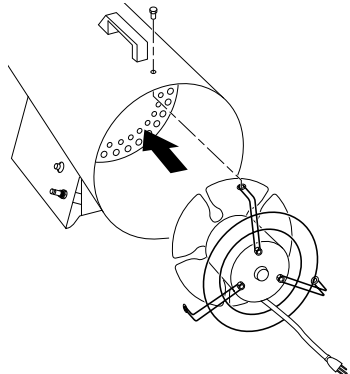

**Figure 12 - Removing Fan Nut From Motor Shaft**
- Use pliers to remove the fan nut from front of motor shaft (See Figure 12).